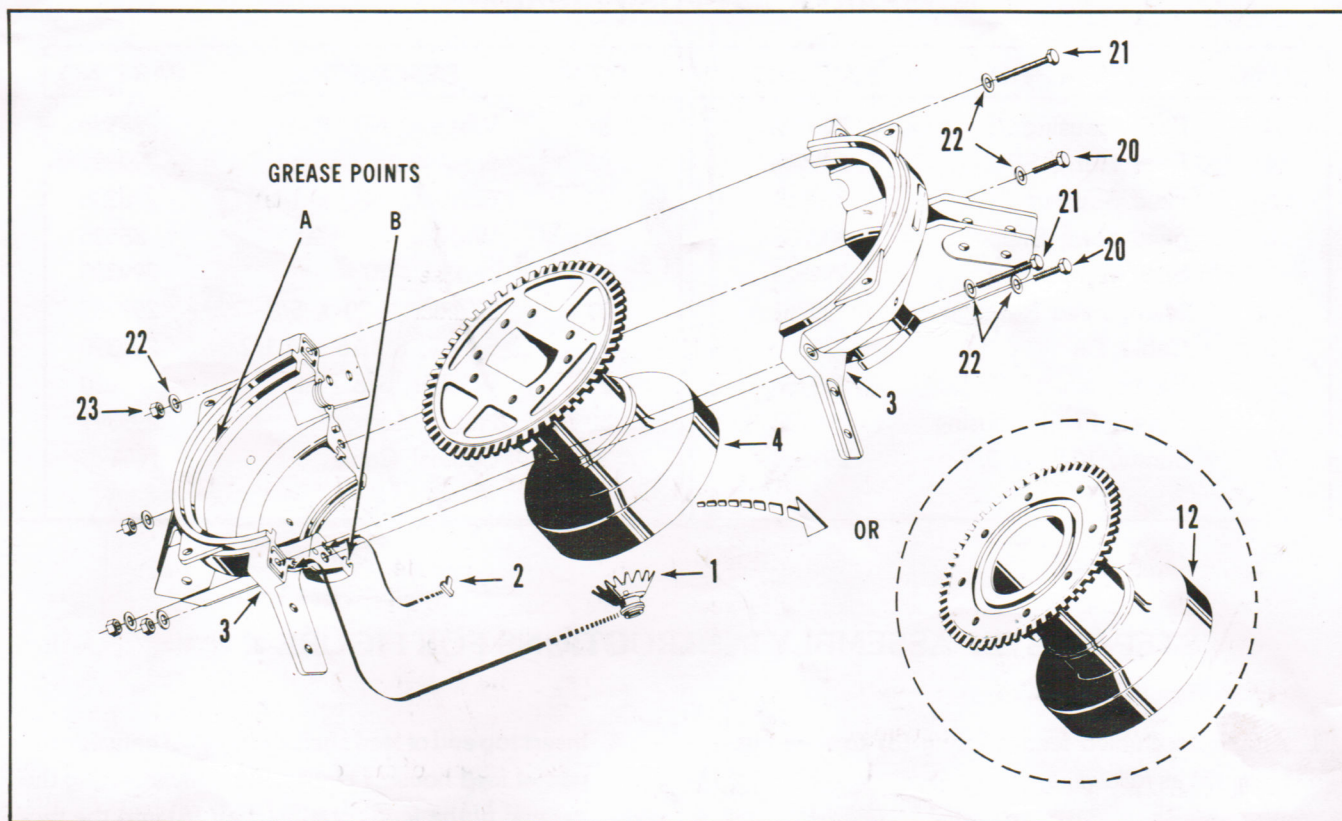

Figure 2. Feed Housing Assembly For Single or Dual Polarization Feed
PARTS LIST FOR FIGURES 2 AND 3
STEP-BY-STEP ASSEMBLY INSTRUCTIONS FOR FIGURES 2 AND 3.
1. Attach assembled feed housing (3) to feed supports (5) as follows:
- a. Locate the hole between the pair of feed housing blades that allows access to the feed shaft gear. Position this pair of blades toward the lower right quadrant of the reflector. (Feed shaft support (6) will be attached here later.)
- b. Place one of the other pair of blades down over a corresponding feed support (5). Then loosely bolt this pair of blades to the feed support using hardware items (24), (25), and (26).
- c. Loosely bolt the other two feed supports (5) to the corresponding blades of the feed housing.
2. Slide shaft retainer (7) onto feed rotation shaft (8). Then insert shaft into feed shaft support (6).
4. Insert top end of feed shaft support (6) between the pair of feed housing blades, carefully inserting the flat end of the feed rotation shaft (8) into the rectangular opening of feed shaft gear (1 in figure 2). Rotating the feed slightly will help in aligning the two parts.
5. Loosely bolt this pair of blades to feed shaft support (6) using hardware items (24), (25), and (26).
6. Loosely bolt the bottom end of feed shaft support (6) to the panel flange using new longer bolts (28) and original washers (29), and nuts (30), two places. Also install shaft clamp (10) as shown.
7. Tighten all hardware except shaft clamp (10). Then insert a flat-blade screwdriver in slot at bottom end of shaft (8) and turn in both directions until the feed contacts the rotation stop, checking to make sure that the feed rotates freely.